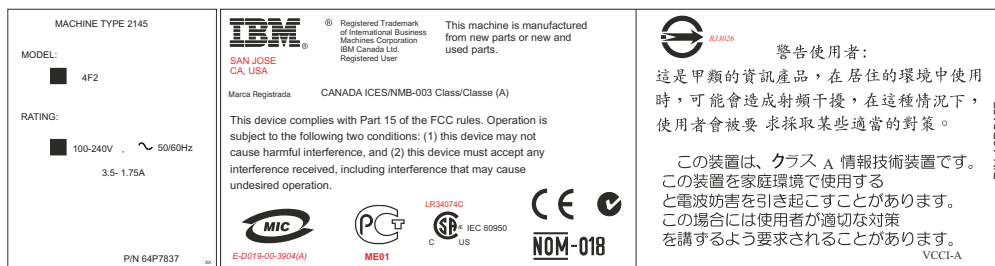

Figure 5. Agency/ratings label for the SAN Volume Controller
1. Agency/ratings label. See Figure 5.